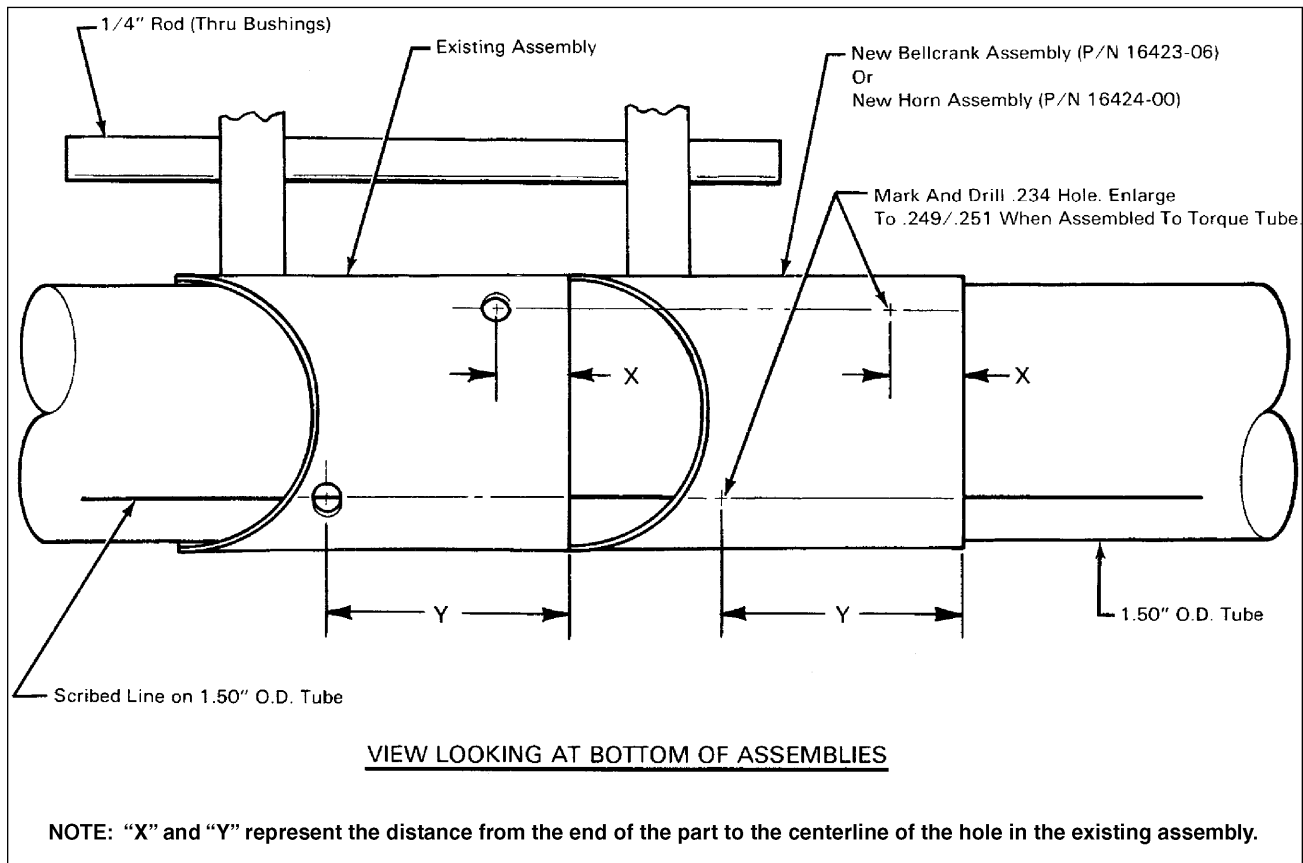

Figure 4-1a. Flap Bellcrank Replacement
4-12A. FLAP BELLCRANK / FLAP HORN REPLACEMENT. (See Figures 4-1a and 5-14.)
- b. Place the existing bellcrank assembly and the new bellcrank assembly (P/N 16423-006) or the existing horn assembly and the new horn assembly (P/N 16424-000) on the 1.50 inch O.D. tube as shown in Figure 4-1a.
- d. Align the scribed line on the 1.50 inch O.D. tube with the center line of one of the bolt holes in the existing assembly as shown in Figure 4-1a. Lay a straight edge across the new assembly so that the edge of the straight edge aligns with the scribed line on the 1.50 inch O.D. tube. Scribe a center line onto the new assembly. Measure the distance from the end of the existing assembly to the center line of the bolt hole in the existing assembly. Measure this distance on the new assembly and scribe a center line.